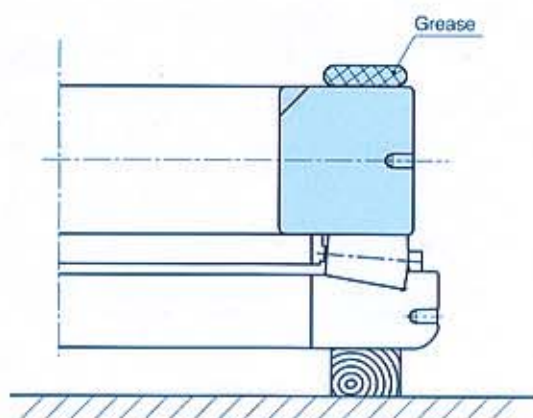

Fig. 3.40
- (3) After applying a thin coat of grease over the entire inner ring surface and carrying out its centering with care, then place it slowly onto the rollers. After placement, apply the specified amount of grease over the entire raceway periphery. (Fig. 3.40)